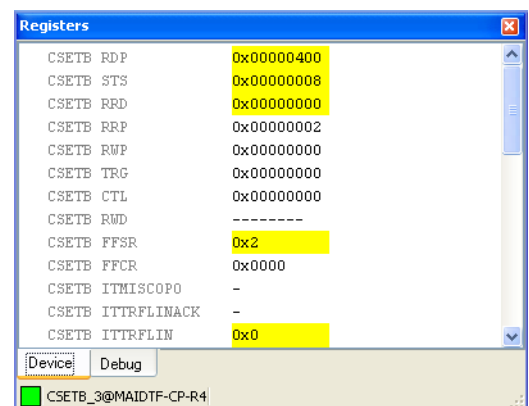

Figure B-5 CSETB registers in the Registers view
- b. Set up the CSETB registers. Figure B-5 shows an example: